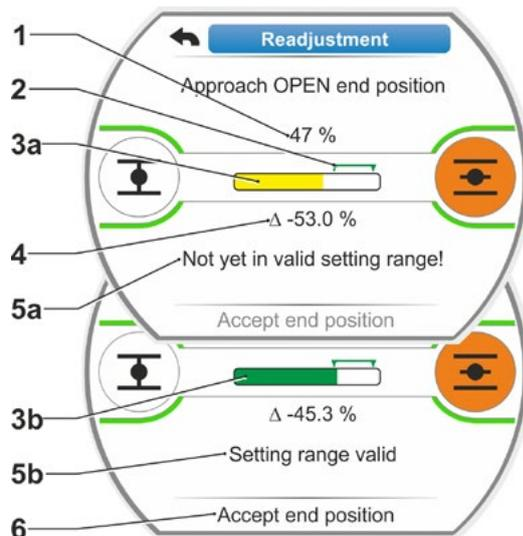

Fig. 3: Approach new end position
- Current position within the travel in percent (fig. 3, item 1);
- The valid setting range for the new end position (fig. 3, item 2);
- The progress bar* as graphic representation of the potentiometer signal (item 3a);
- deviation in percent from the currently valid end position (item 4).
- The valid setting range has not yet been reached (item 5a) or
- the setting range is valid (item 5b)